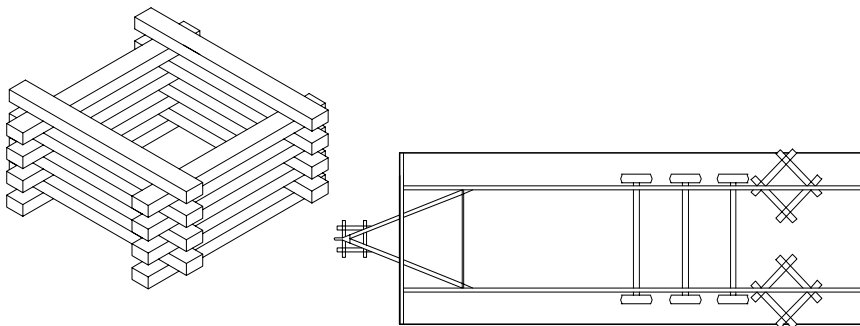

Figure 15. Stack 4" x 6" by 5' long timbers as shown to form safety timbers. Place safety timbers under home behind axle area and under hitch.
Utilize proper cribbing. Homes weigh several tons. No one should be under the home (whether it is moving or stationary) unless proper cribbing is in place (**Figure 15**). Failure to utilize proper cribbing may result in serious injury or death.
- Make sure adequate safety cribbing (**Figure 15**) is in place whenever the home is placed on jacks.
2. **Install cribbing.** Install safety cribbing (**Figure 15**)